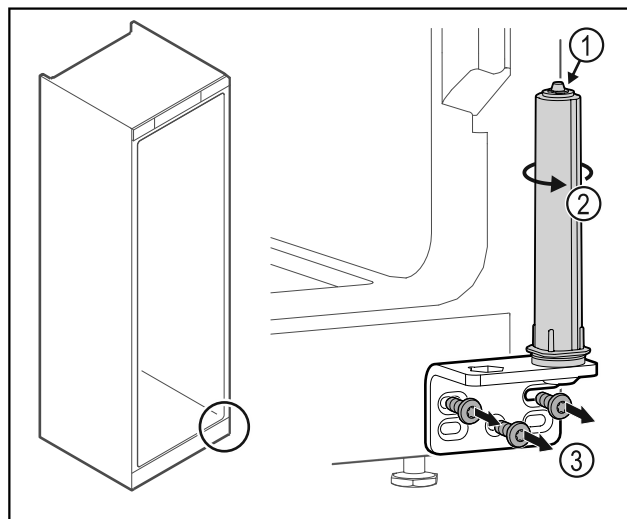

Fig. 45
- ▶ Do not disassemble the door closing system Fig. 45 (1).
- ▶ Turn the closing system Fig. 45 (2) until it clicks.
- ▶ Unscrew the hinge Fig. 45 (3).